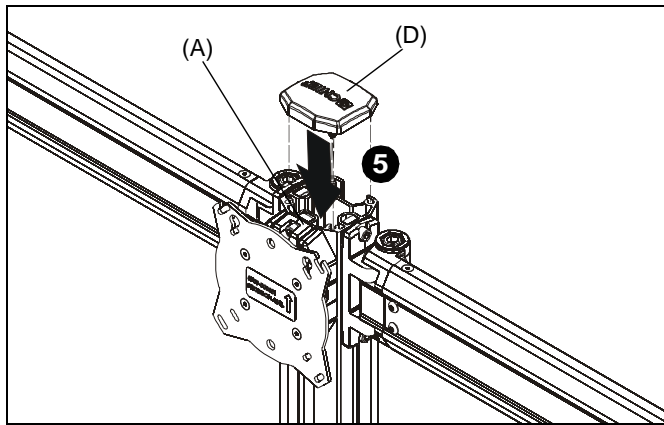

Figure 5
5. Snap column cap (D) onto top of column assembly (A). (See Figure 5)